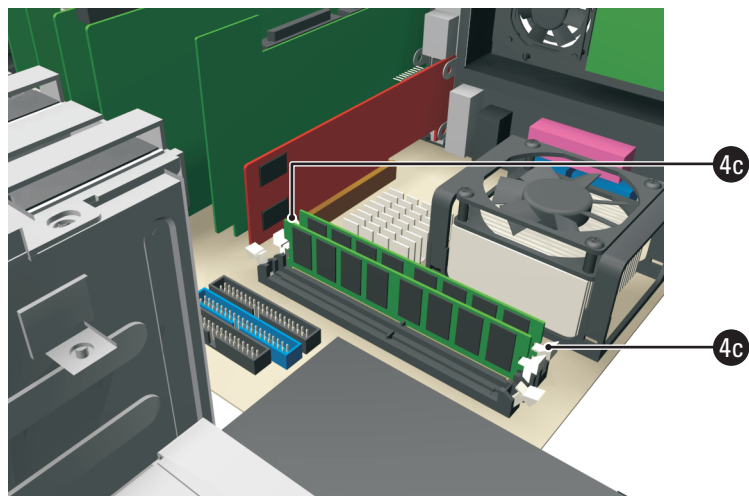

Figure 11. Seating and Securing the DIMM Module
- c. Carefully, but firmly, push the DIMM module into the empty socket until it is properly seated. The module is properly seated when the retaining clips snap back into place. Refer to Figure 11.